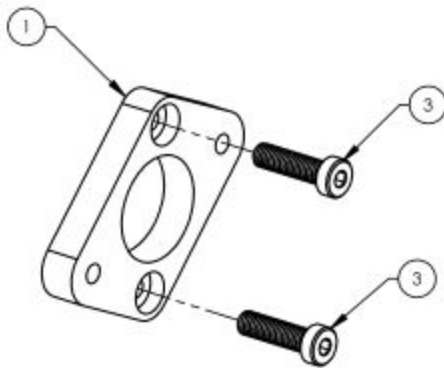

Figure 1
1. Install two 30mm long socket head screws in back side of plate. See Figure 1. Torque hand tight or 10 ft-lbs. ***If using a Tilton 76 series low profile master cylinder install the provided 25mm long low profile socket in the top position for additional clearance. If using a Wilwood cylinder you will not use item #7.*